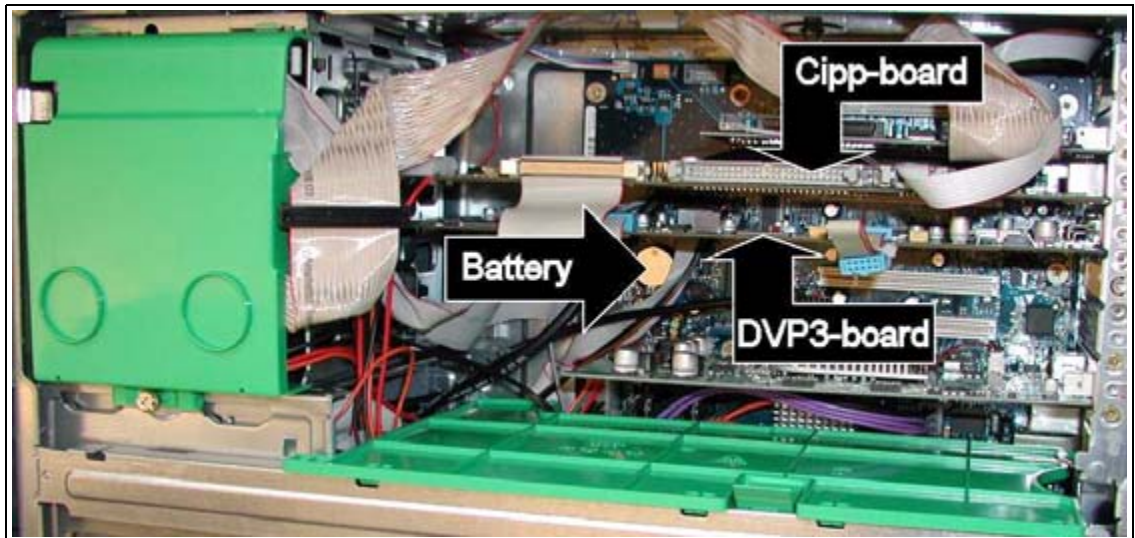
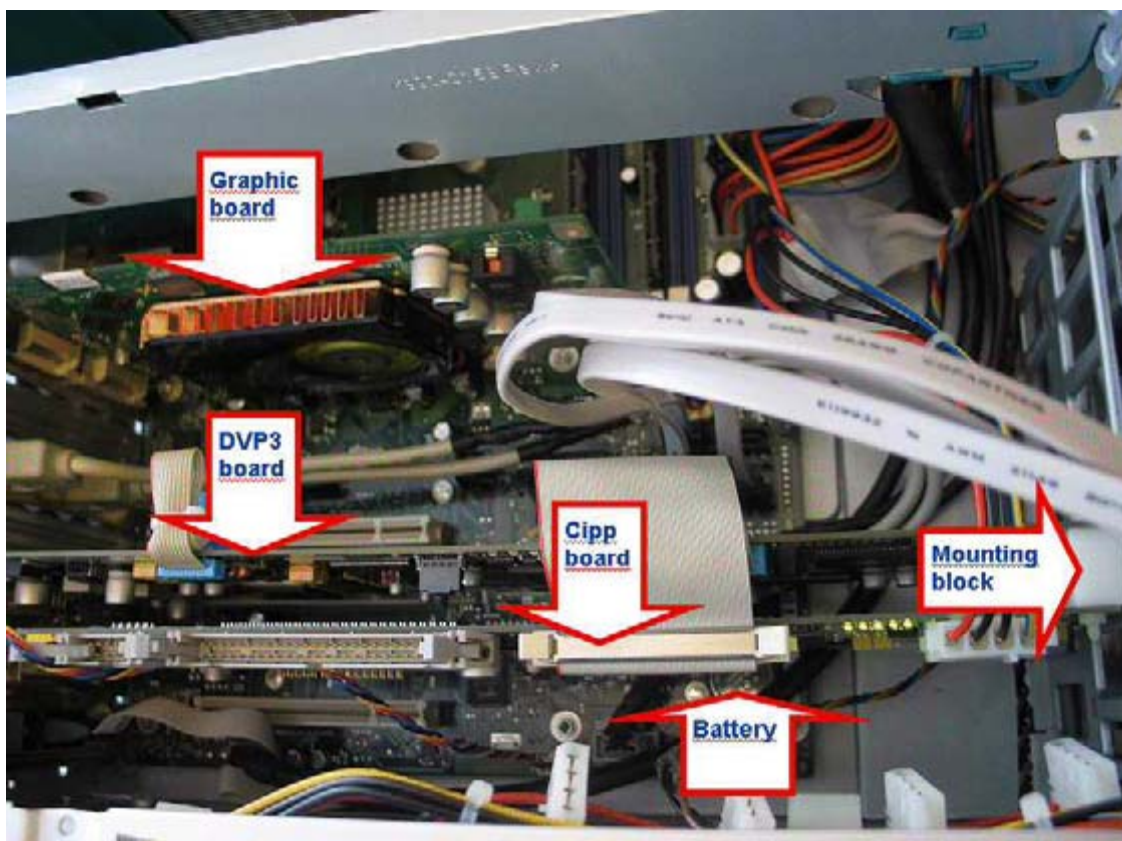

Fig. 54: Replacing the lithium battery_1
Fig. 55: Components M450_
4. Remove the battery M420/ M430 (Fig. 54 / p. 99) or M450 (Fig. 55 / p. 100) and follow the "Disposal Instructions" for disposing of the old battery.
Work steps 1 through 6 are only necessary for a long design of a PCI board (e.g. CIPP board) (see (Fig. 54 / p. 99)
3. Replace the DVP3 board (Fig. 54 / p. 99) according to (Replacing a PCI board PC M420 and M430 \(e. g. CIPP board\) / p. 103).